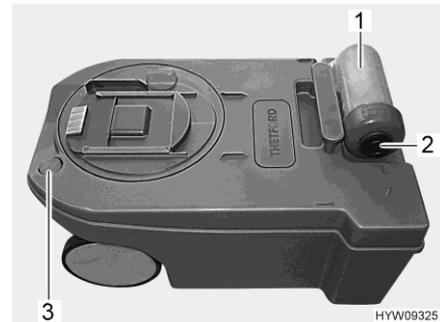

Fig. 113 Sewage container
- At a disposal station that is especially provided for this purpose, swivel the outlet pipe (Fig. 113,1) forwards and unscrew cover (Fig. 113,2).
- Press the coloured ventilation button (Fig. 113,3) and hold it there until the sewage container is empty.